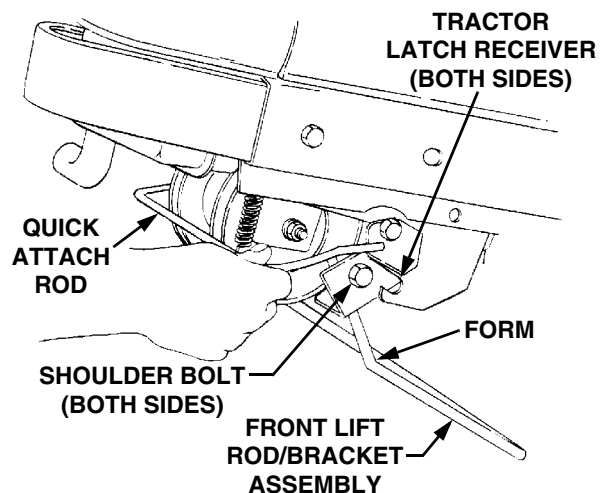

Figure 29
4. Refer to Figure 29 to ensure the correct orientation of the front lift rod/bracket assembly [the form (bend) in sides of rod point downward]. From the front of the tractor, push downward and hold the tractor quick-attach rod. Slide the shoulder bolts on each side of the front lift rod/bracket assembly fully into the left and right tractor latch receivers.